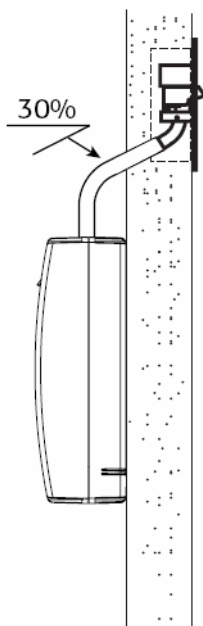

Figure 3.1
4. The dimensions in Fig 3.1 and 3.2 are minimum distances to prevent the humidified air from coming in contact with people, electrical equipment, ceilings and cold surfaces before the steam has been completely absorbed. Choose the location with care as the steam is hot and can cause burns.